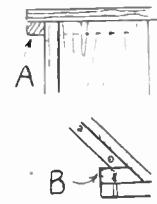

Fig. 3—Fixing methods
An alternative method of fixing, and a strong one, too, is to screw a  $\frac{1}{2}$ in. square wood fillet to the ends of each side piece, and to screw or nail the barrow ends to these fillets instead of through the sides, as at (A) in Fig. 3.
Instead, a strip of wood should be screwed to each end piece of the barrow, as at (B) in Fig. 3, and the floor boards screwed to the strips, making a strong fixing, which is specially needed at this part. This completes the body work.